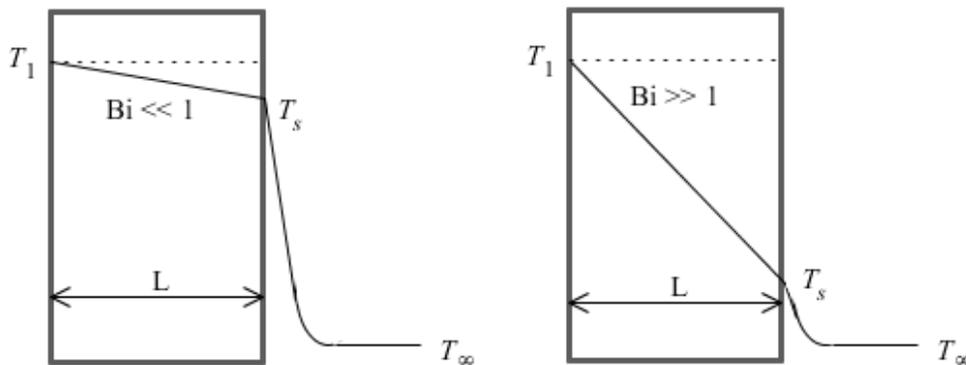

Figure 5: Low and high Biot numbers
Taking the ratio between the temperature differences reveals the Biot number. Fig. 5 displays two different materials that are cooled by convection. The temperature across each material is shown.
In fig. 5, the left object is said to have a low Biot number. It has a low temperature drop within the body ($T_1 - T_s$) due to a larger thermal conductivity, opposite the second body with a low conductivity. Clearly, the Biot number should be expected to be low because there is a larger drop between the surface temperature and the ambient fluid temperature ($T_s - T_\infty$). Rearrange Eq. (25) to see this explicitly.